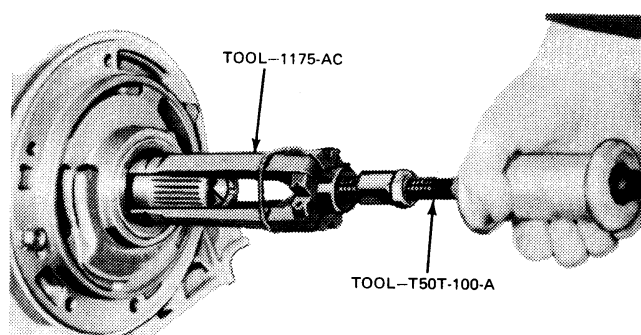
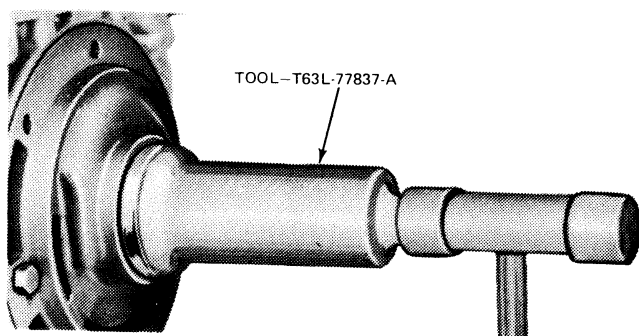

FIG. 64 Removing Front Pump Seal
FIG. 65 Installing Front Pump Seal
7. If the front pump seal must be replaced, mount the pump in the transmission case and remove the seal with the tool shown in Fig. 64. To install the new seal, use the tool shown in Fig. 65.